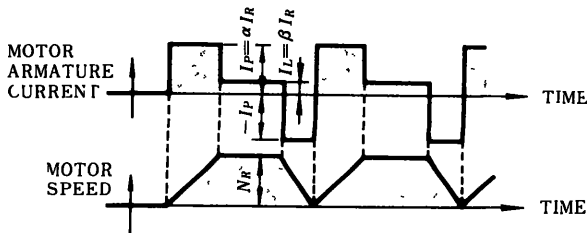

Fig 3.5 Timing Chart of Motor Armature Current and Speed
3.4.3 When the Motor accelerates, runs at Constant Speed, and decelerates in a Continuing Cycle without being at Standstill (Fig. 3.5)
The timing chart of the motor armature current and speed is as shown in Fig. 3.5. The allowable frequency of operation "n" can be calculated as follows.